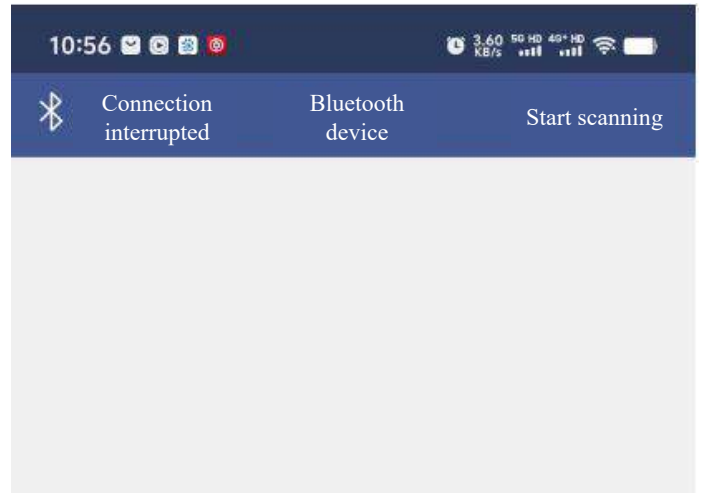

Figure 3.0
- ② Start scanning; if nothing is displayed, click it for more times, as shown in Figure 3.0.